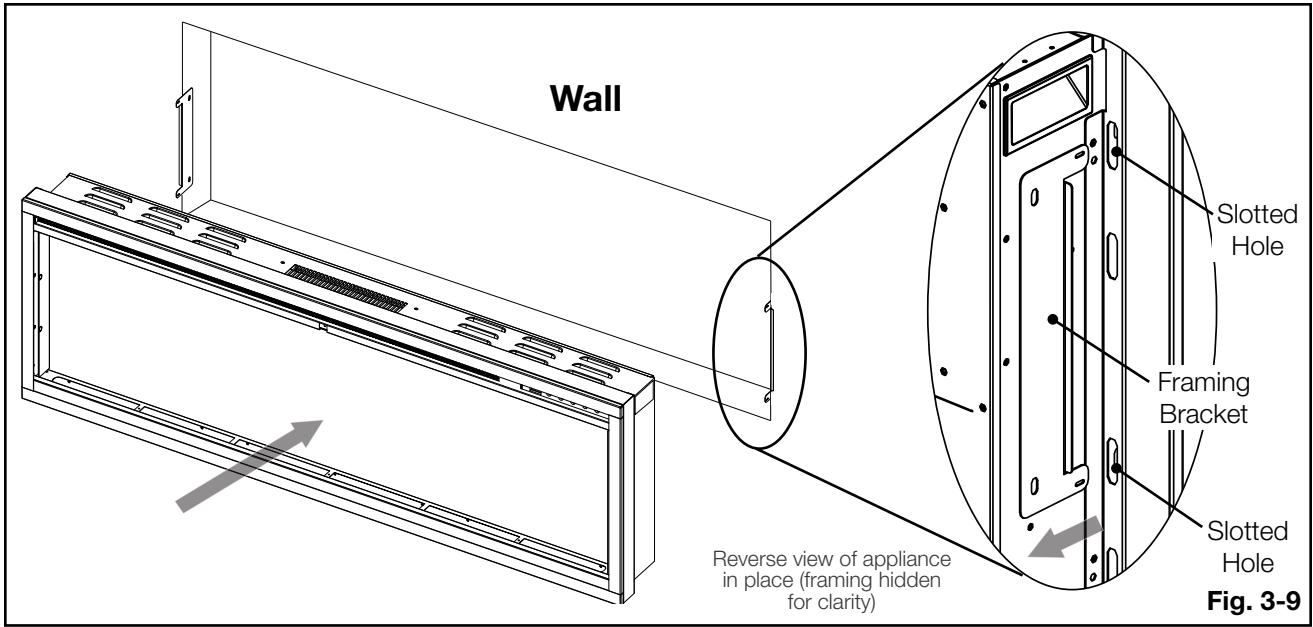

Fig. 3-9
- D. Insert the appliance into the rough framing, and make sure the framing brackets fit into the slotted holes of the side trim (**Fig. 3-9**).